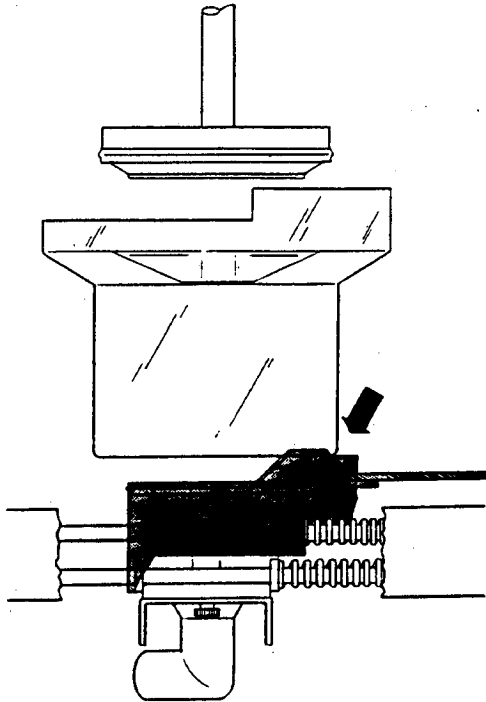

FIGURE 3.9
7. If the carriage was not correctly behind the cylinder and is being forced back out of the way or the cylinder is resting on top of the alignment shoulder of the brew carriage (see FIGURE 3.9) and causing the brew water to leak from between the cylinder and the brew chamber, then an adjustment of only one or two teeth to shorten the cable is needed - go to step 12. If the original adjustment has been lost, then a 'scratch' adjustment will have to be made - continue to step 8.